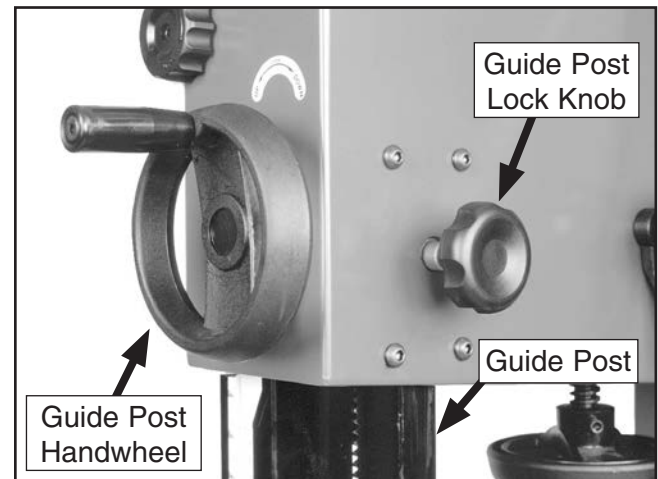

Figure 32. Guide post controls.
The guide post, shown in **Figure 32**, connects the upper blade guide assembly to the bandsaw. The guidepost allows the blade guide assembly to move up or down via a rack and pinion. In order to cut accurately, the blade guide assembly must be no more than $\frac{1}{4}$ " from the top of the workpiece at all times—this positioning provides the best support for the blade.
2. Loosen the guide post lock knob shown in **Figure 32**.